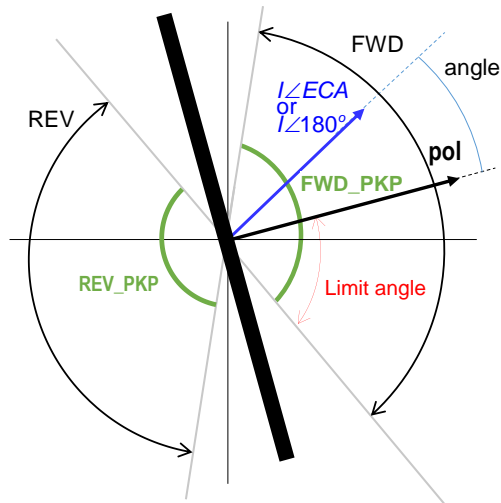

Figure 2-3 Neutral/Negative sequence current directional element.
- ❑ **Polarizing mode:** If “Current” is selected, the polarizing signal (pol in Figure 2-3) is the measured residual current (IRmeaspu pin) from the ground CT. If “Voltage” is selected, the polarizing signal is the inverse of the negative sequence voltage. If “Dual” is selected, both previous options are enabled.